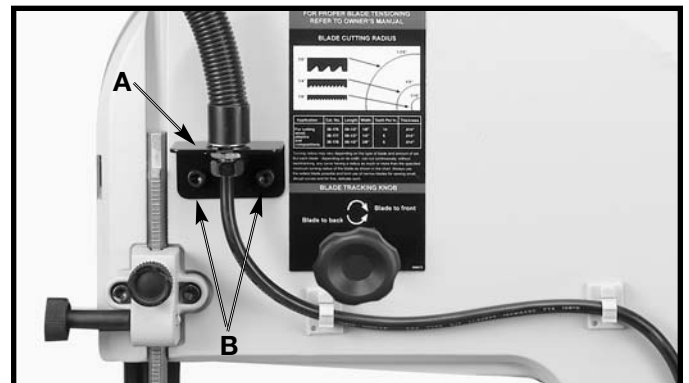

Fig. 18
1. Fasten the lamp bracket (A) Fig. 18 to the top cover of the machine, using two M6 x 20mm socket head nylock screws (B) and M6 lockwashers. Tighten securely using the 5mm hex wrench provided.